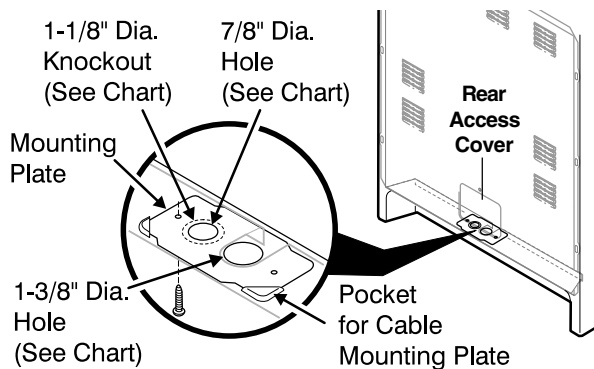

Fig. 9
See range connection opening size chart (Figs. 9 & 10) for cord kit ampere rating information. Terminals on end of wires must be either closed loop or open-end spade lugs with upturned ends.
The Rear Access Cover must be removed (Fig 9). To remove, loosen center screw (one screw) and remove cover. The terminal block will then be accessible.
NOTE: Range is shipped from factory with 1-3/8" dia. hole as shown. To use either 7/8" dia. hole or 1-1/8" dia. knockouts refer to Fig. 9.
1. Follow the manufacturer's installation instructions supplied with the strain relief and install (Also see Figs. 9, 10 & 11).
5. Make sure all screws are tightened securely and replace the rear access cover (See Fig. 9).
3. Make sure all connections are tightened securely and replace the rear access cover (See Fig. 9).